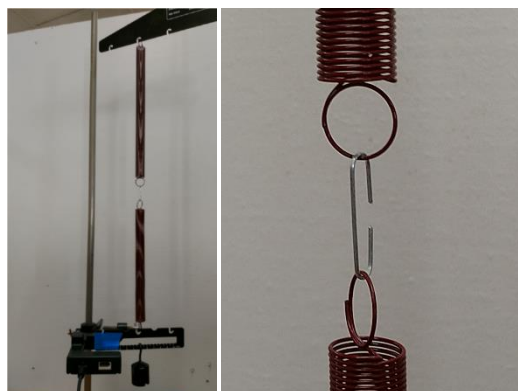

Figure 13 – Series springs with clip connector
- A) Next set up your system in a series configuration with two of the same color spring by hanging them from the center slot on the parallel hook bar and connecting them with the clip connector. Refer to Figure 13.